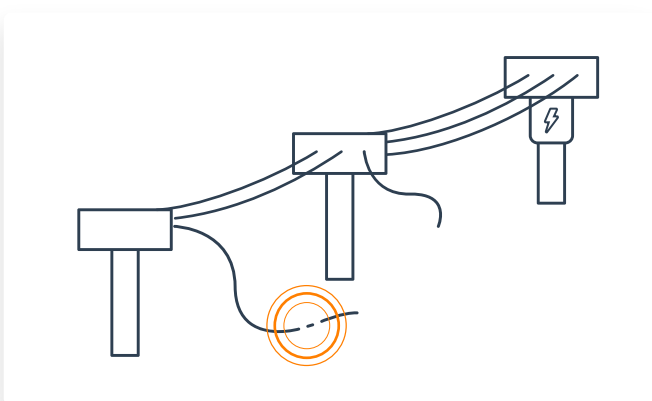

Figure 1: HV Open Circuit fault diagram
When a High Voltage (HV) line breaks, it can come into contact with the ground both on the supply or the load side. When the contact is on the supply side, this will likely generate a short-circuit fault, which will trigger conventional HV protections, which in turn will trip and clear the fault by disconnecting that part of the circuit. We define this situation as **an HV Open Circuit** (please see Figure 1).